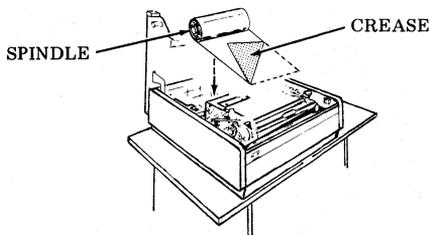

Fig. 50—Paper Forming Prior to Installation
- 9.02 Insert spindle in new roll; crease end of paper as shown and install paper roll into printer enclosure (Fig. 50).